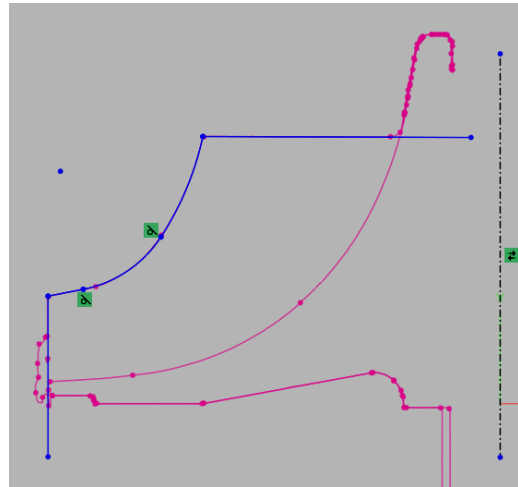

Figure 338
- Use **Figure 338** to create the sketch then Exit.